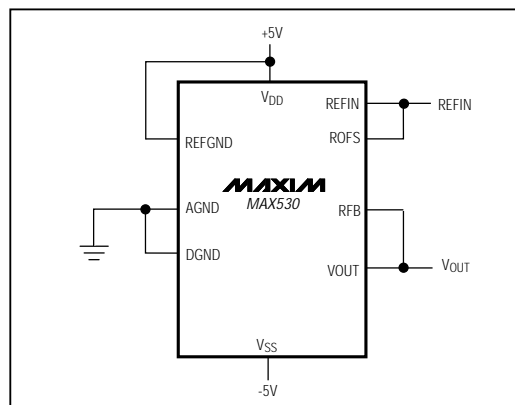

Figure 12. Four-Quadrant Multiplying Circuit
The MAX530 can be used as a four-quadrant multiplier by connecting ROFS to REFIN and RFB to VOUT and, using (1) an offset binary digital code, (2) bipolar power supplies, and (3) a bipolar analog input at REFIN within the range $V_{SS} + 2V$ to $V_{DD} - 2V$, as shown in Figure 12.